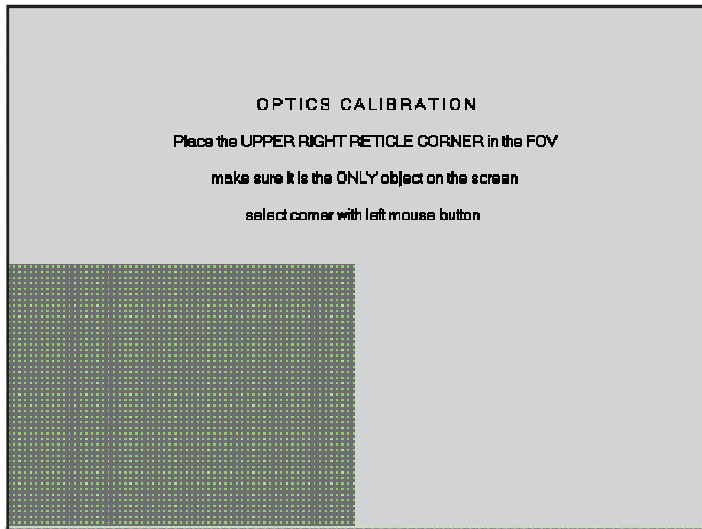

Figure 4-5. Optics Calibration Screen
14. Make sure the upper-right corner of the QVI Alignment Reticle square is approximately centered in the Image window as shown in Figure 4-5.
- The image shown in Figure 4-5 is out of focus, offset from center, or does not appear at all